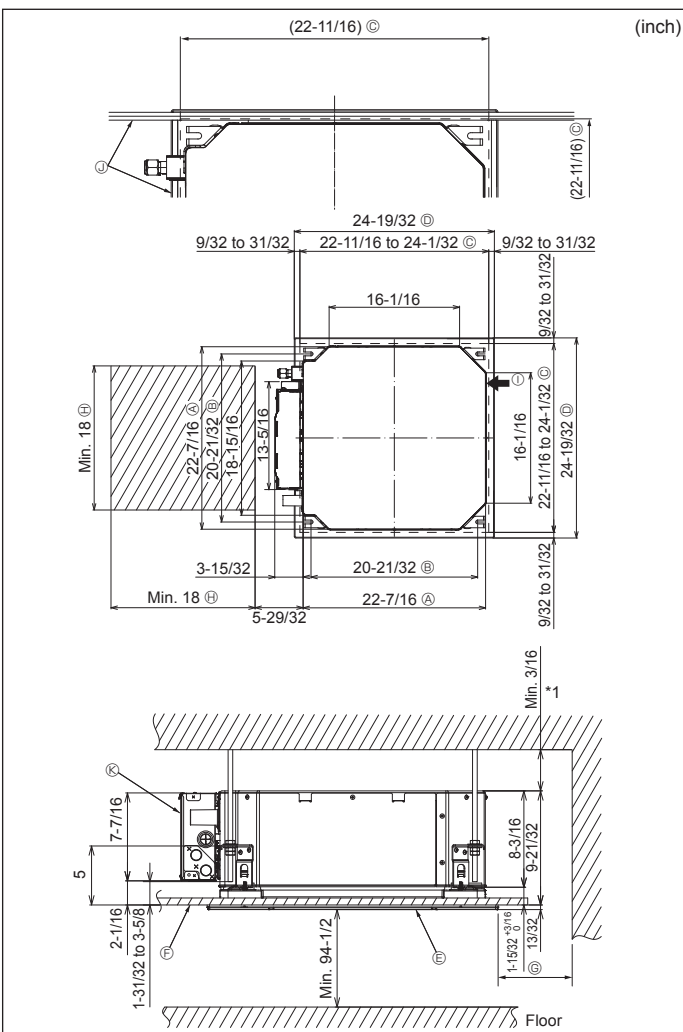

Fig. 4-2
⑤	Drain socket	1
⑥	Insulation	1
4.2. Ceiling openings and suspension bolt installation locations (Fig. 4-2)